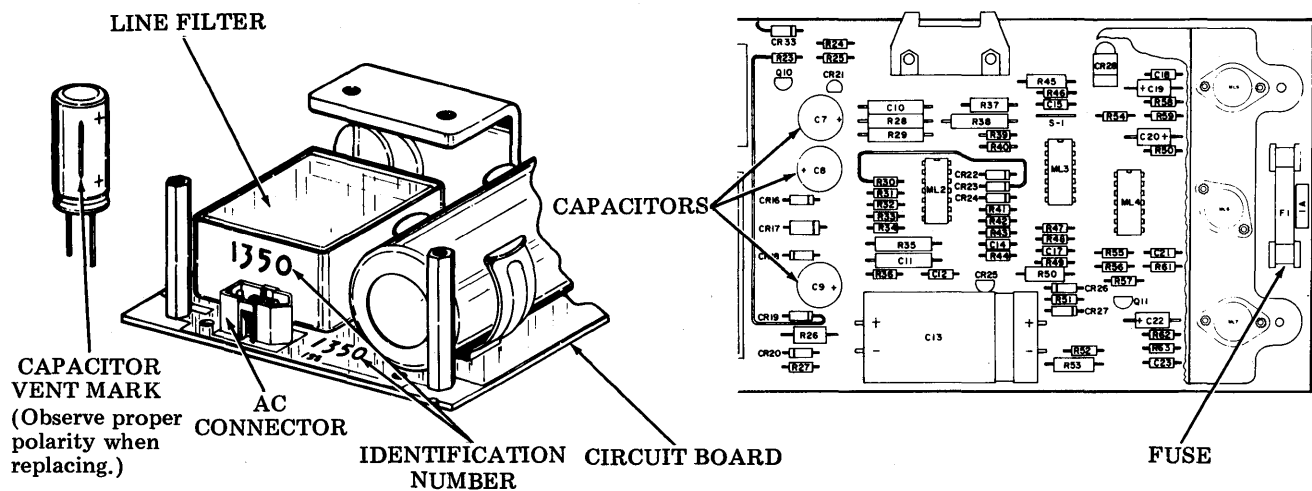

Fig. 1—430704 Capacitor Replacement
1.15 Before applying power with cover or heat sink removed or attempting repair of the power supply, check the identification number located on the circuit board next to the ac connector or on the end of the line filter (see Fig. 1).
1.16 If the number is 9300 or less, check for either of the following identification marks (see Fig. 1):
1.18 If one of the marks is not present remove the heat sink and check capacitors C7, C8 and C9 for vent mark. Replace capacitors if vent mark is not present (see Fig. 1).